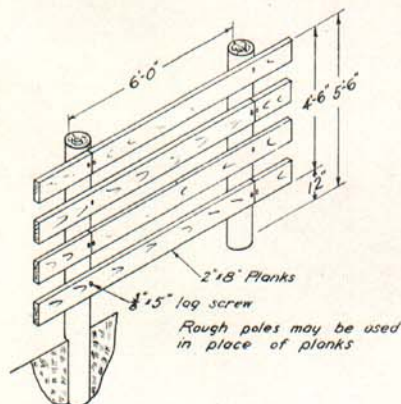

Fig. 3. Post and plank make a satisfactory fence where lumber is available.
**Posts and Planks:** (Fig. 3.) Cedar posts treated with preservatives are the best. Posts should not be less than 6 inches wide at the top and 8 feet long. They should be set at least 2½ feet in the ground. Planks should be not lighter than 2" x 8". The fence should be not less than 4 planks high, with the lower plank about 10 inches from the ground. Lag screws are stronger and hold more securely than spikes in attaching planks to